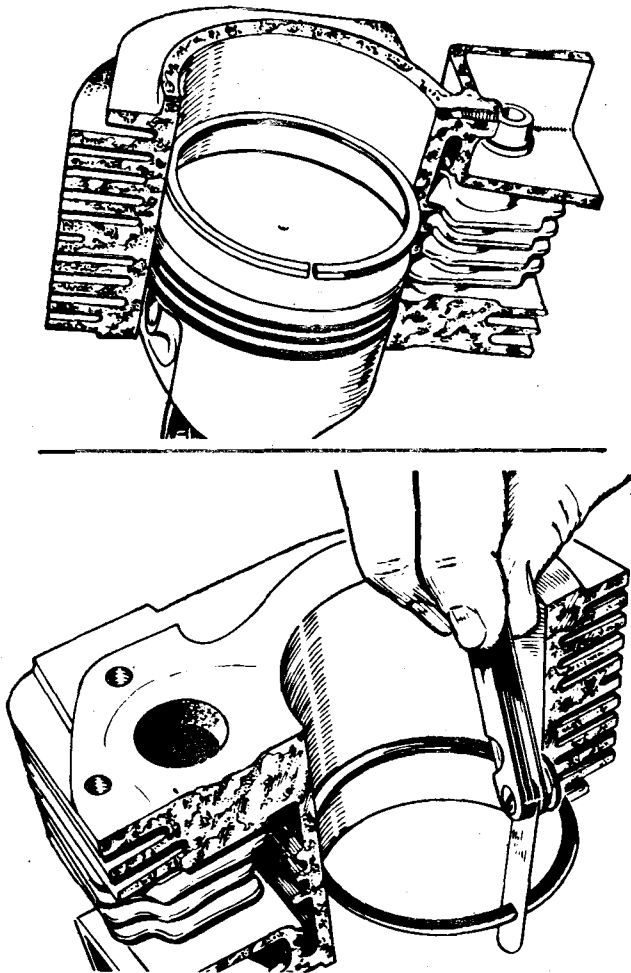

FIGURE 17. POSITIONING OF PISTON RING AND MEASURING OF END GAP
1. Install the piston ring in the cylinder bore. Invert the piston and push the ring to the end of ring travel, about halfway into the bore, which trues the ring end gap. Check the gap with a feeler gauge (Figure 17).